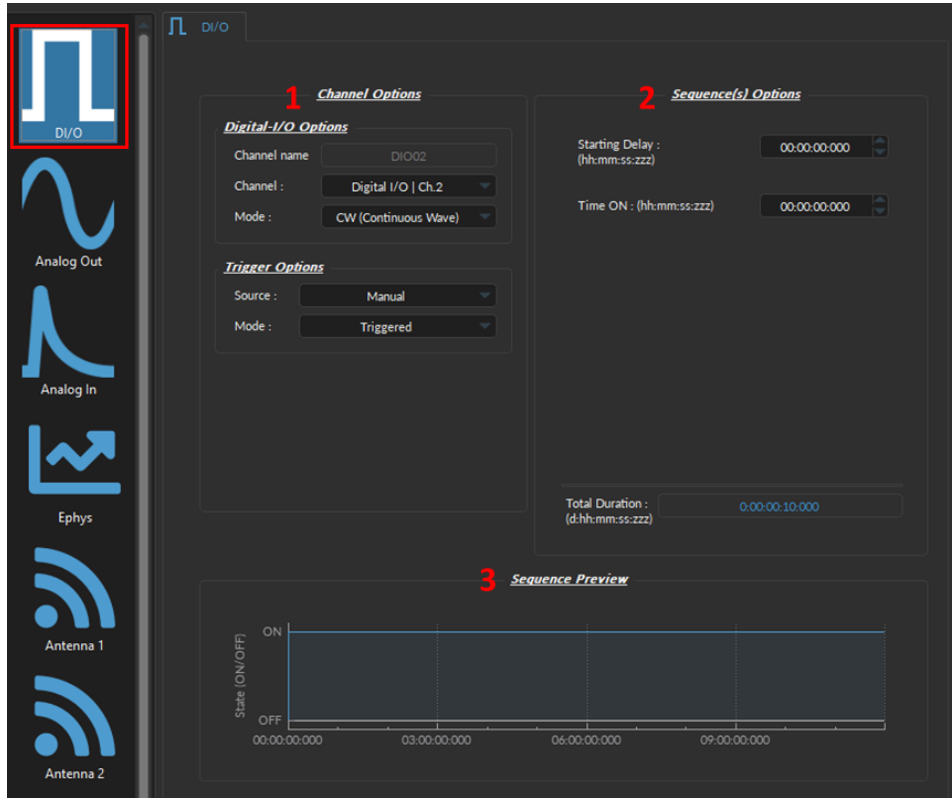

Figure 9.19: Channel(s) configuration window, Digital I/O - CW mode
- The **CW (Continuous Wave)** channel mode (Fig. 9.19) allows the creation of a continuous TTL pulse sequence. The following elements appear in the **Sequence Options** box.